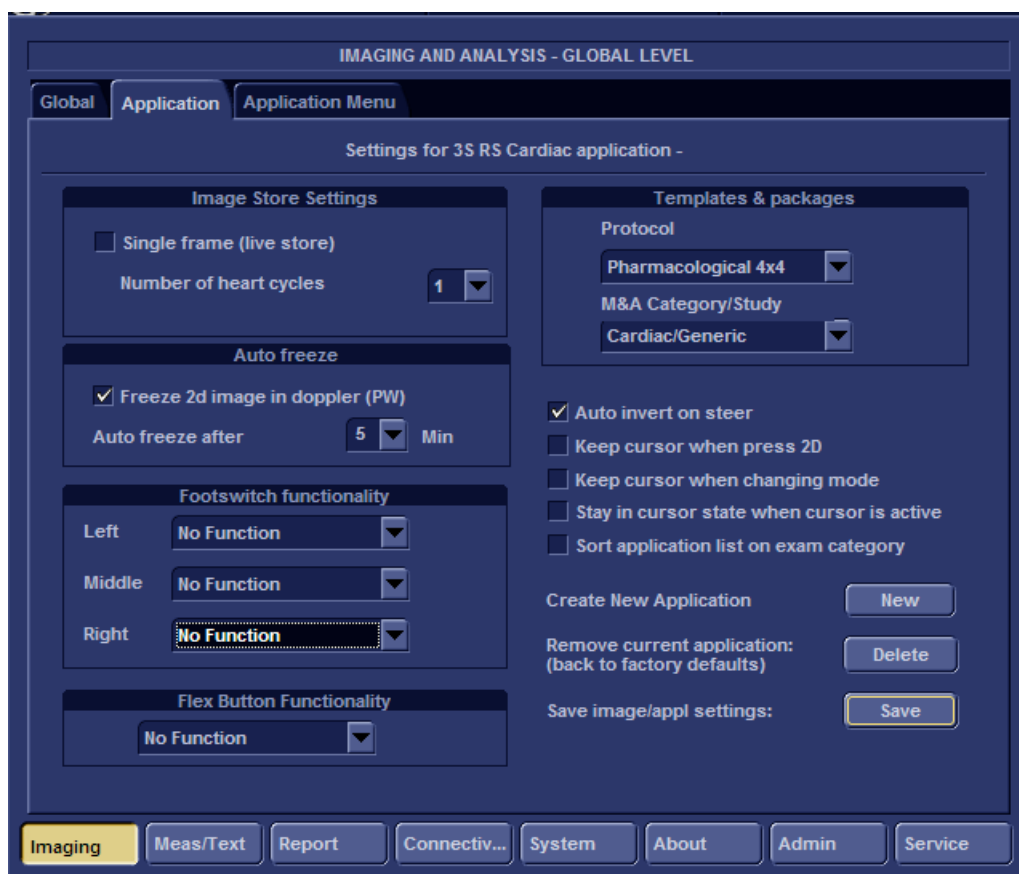

Figure 3-31 Application Tab
- 2.) Select **Imaging**, then activate the **Application** tab - see Figure 3-31.